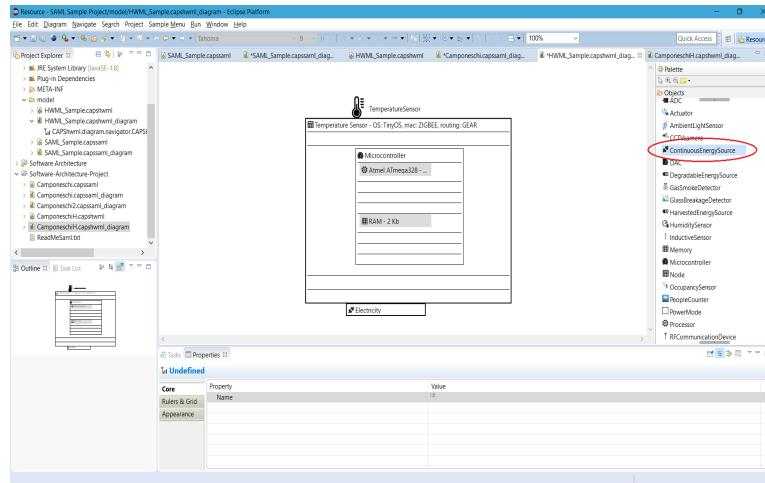

Figure 3.4: Final result
- From the object view, select **ContinuousEnergySource**, place it on the node and call it **electricity**: it means that the node is powered by a continuous energy source that is **electricity**. In the end, add also the **TemperatureSensor** object. The final result is showed in the figure 3.4;